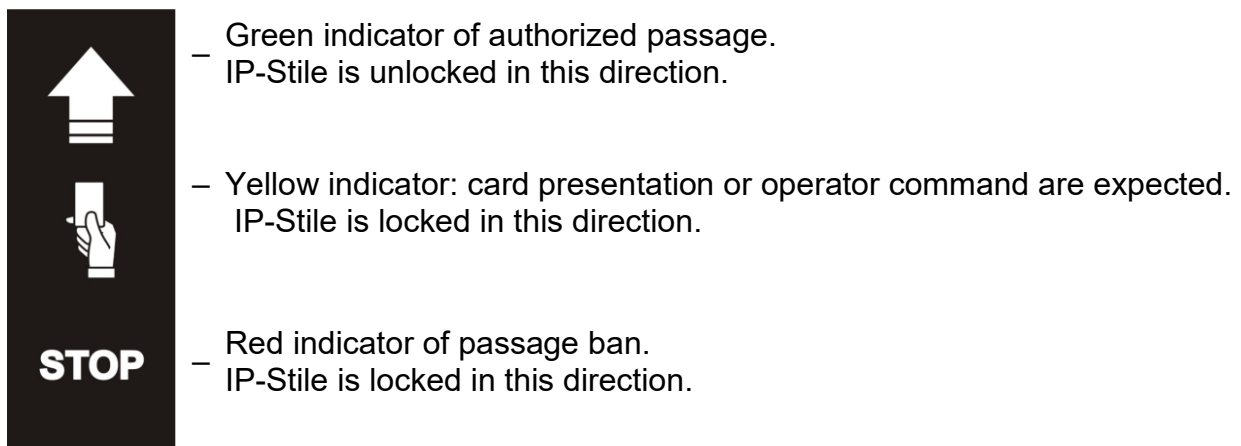

Figure 3. Mnemonic indicators of the indication module
Indication modules (8) are located in the IP-Stile housing front covers (9). They inform about the current status of the IP-Stile. Both front sides of the top cover feature indication modules (8) with built-in card readers. The indication module has 3 mnemonic indicators (Figure 3):